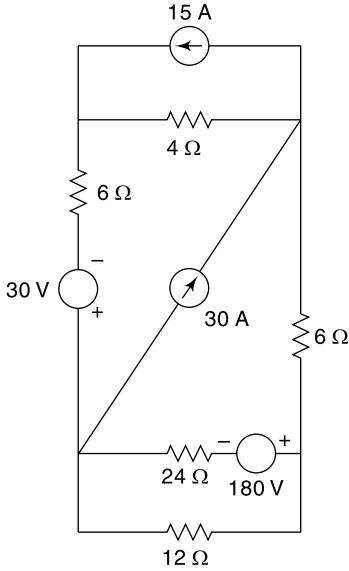

Fig. 14.53
14.68 In Fig. 14.53, find the maximum power transfer in 12Ω resistor.